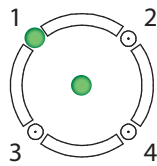
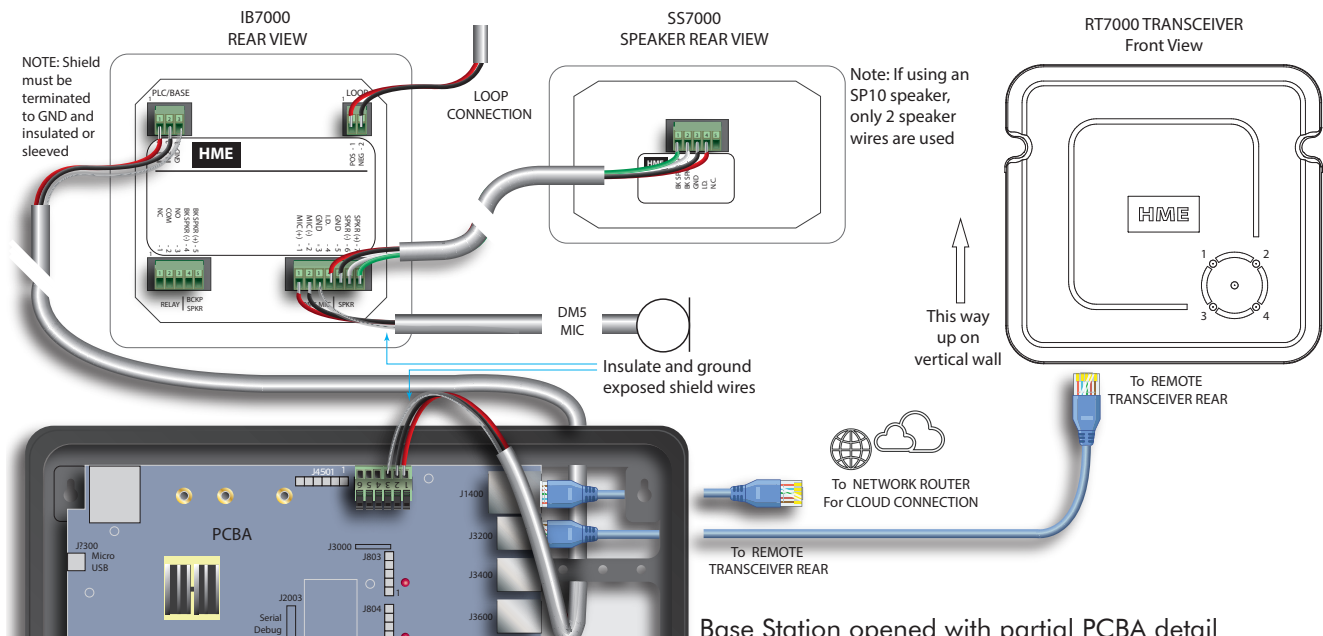

Fig. 9
Fig. 11
4. Connect the Ethernet cable to the RJ45 port on the rear of the RT7000 (see Fig. 2) and the other end to one of the available ports on the base station (see Fig. 3, Fig. 11, and Table 2). The base station provides power for the RT7000. The center LED on the front of the RT7000 is the power indicator. It turns on solid green once power is connected (see Fig. 9 on page 3).
5. One of the outer LEDs (numbered 1 to 4) also turns on and initially flashes a different color as the RT7000 completes a scan of the environment to find an available channel (see Table 1). Once the scan is finished, this outer LED also turns solid green (see Fig. 9 on page 3). During this time, the base station HOME screen also provides a color-coded status for the RT7000 (it is labeled as "Transceivers," see Fig. 4). The **Transceivers** indicator initially turns ● (yellow) while scanning for a channel before turning ● (green) when one is found. This can take a few minutes.
- Once connected to the base station, the center LED on the RT7000 front illuminates to indicate it is turned on. One of the outer LEDs (numbered 1 to 4) also turns on depending on what base station port it is connected to (1 is used in this example, see Fig. 9 and Table 2). This outer LED will initially flash a different color (see Table 1) as the RT7000 scans for available channels before turning solid green once a channel is found.